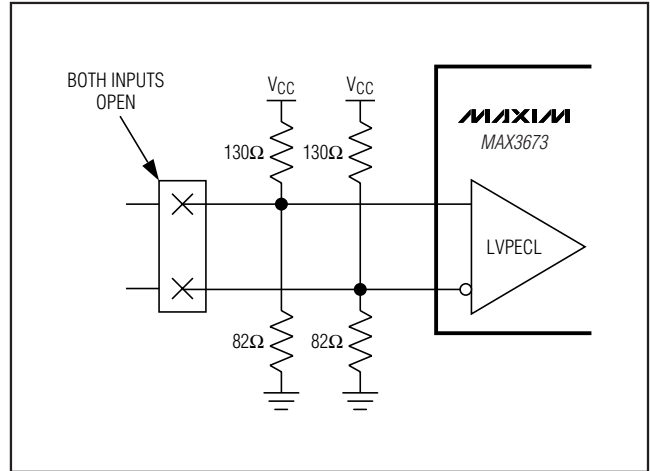

Figure 3. Positions for Open-Circuit Detection
- Both inputs ( $\overline{REFCLKx}$ ,  $\overline{REFCLKx}$ ) are disconnected from the source and have  $130\Omega$  to  $V_{CC}$  and  $82\Omega$  to GND at each input. See Figure 3.